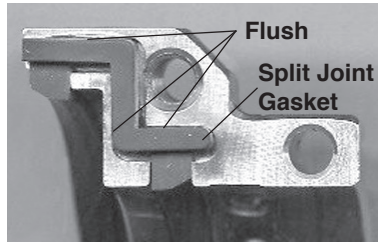

Figure 12
5.5 Place the split joint gasket in the groove and position it as shown in Figure 12. Hold it in place for 10 seconds. The split joint gaskets should be positioned flush with the groove surfaces as indicated.